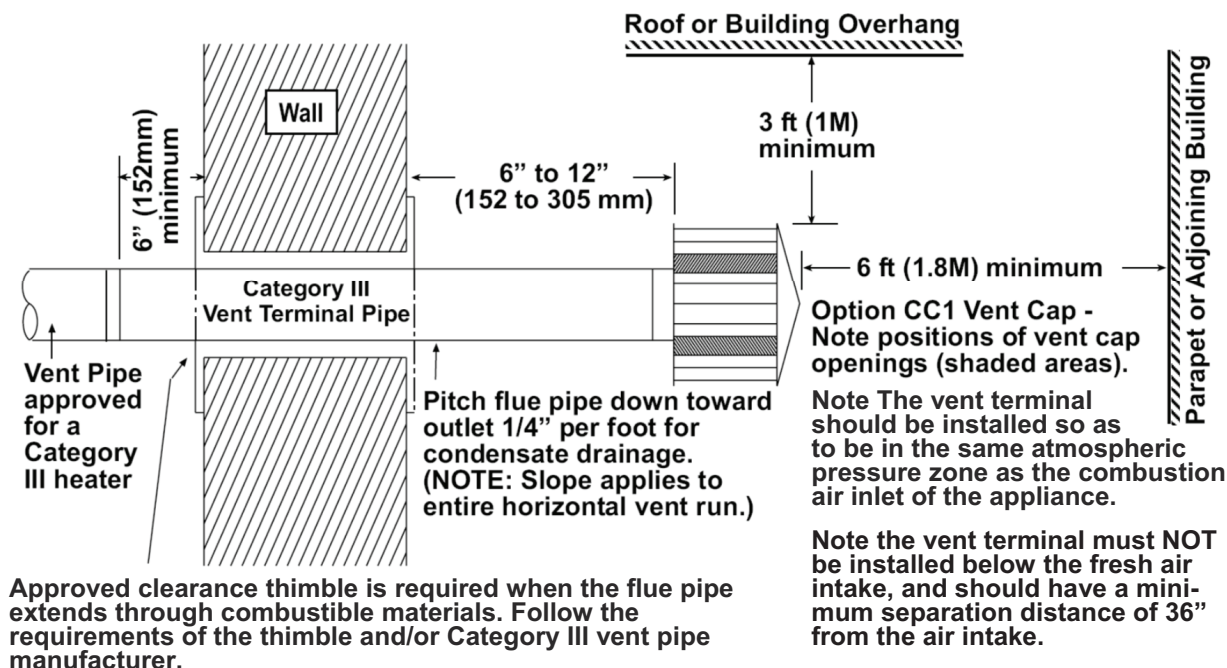

Figure 20. Horizontal Vent
- Individual units may be vented horizontally (see Figure 20) through side walls and terminated with an approved terminal. An approved clearance thimble is required when the flue pipe passes through combustible materials. Follow the requirements of the thimble manufacturer.